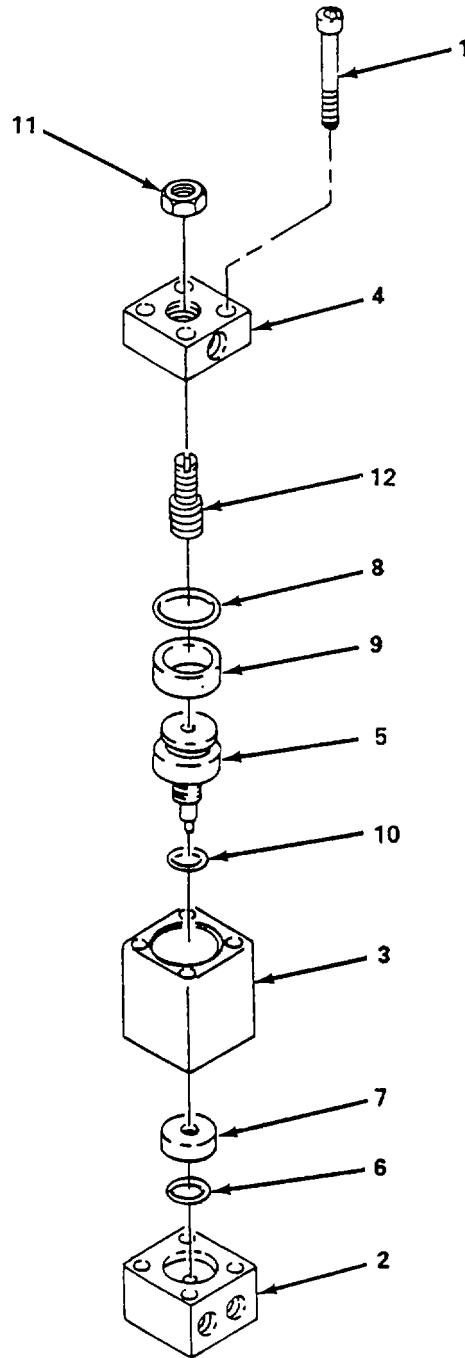

Figure 5-23. Interfilter Drain Valves, Repair.
- (6) Apply petroleum jelly to preformed packing (12).
- (7) Install drain valve (10) and preformed packing (12), and secure with two allen screws (8) and washers (9).
- (8) Install line (7) and tighten three fitting nuts (6).
- (9) Install line (5) and tighten fitting nuts (4).
- (10) Connect electrical lead (2) to solenoid (3) and secure with screw (1).
b. Repair. (figure 5-23)
- (1) Remove drain valve (para. a. above).